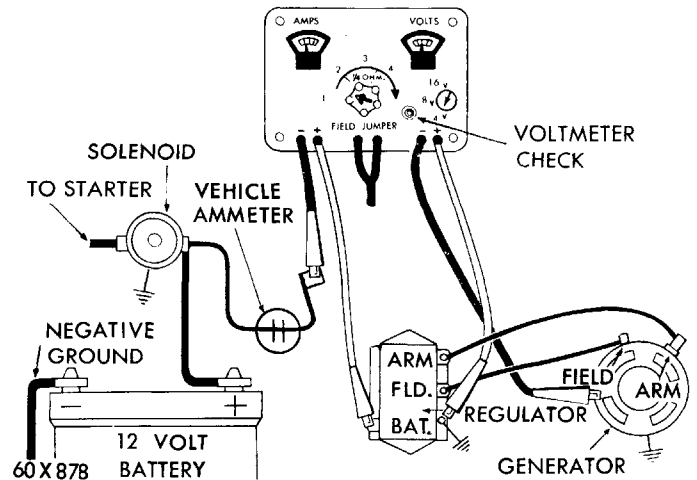

Fig. 4—Regulator Ground Circuit Test
- (1) Run engine at idle speed.
- (2) Turn control knob to Number 2 position.
- (3) Connect test ammeter leads and jumper wire leads as outlined under "Insulated Circuit Resistance Test" Paragraph 4.
- (4) Connect voltmeter positive lead to base of regulator and negative voltmeter lead to generator housing, as shown in Figure 4.
- (5) Slowly increase engine speed from idle to 1500 R.P.M. Voltmeter reading should not exceed .1 volt and should preferably stay on zero.
- (6) If voltage loss exceeds .1 volt, check for a loose regulator ground wire or poor ground contact between regulator base and ground. Also inspect grounding of vehicle body and engine.